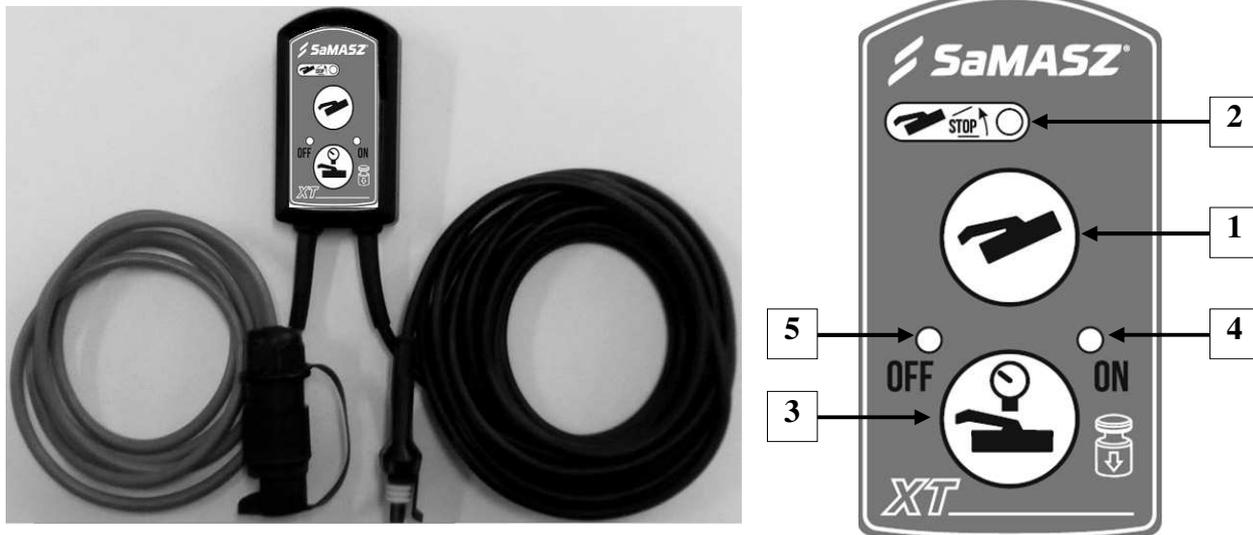

Fig. 16. Control panel – functions
- control panel (**Fig. 16**) using hermetic connector (place the panel in the tractor).
In order to set pressure in working system, first press button (3)  on control panel (Fig. 16), then use lever to control the tractor's external hydraulics (making oil flow from tractor to working system will cause increase of pressure in the system). **Warning! Set the pressure in the working system before starting the mower, as otherwise unloading cylinder may be damaged.**
To set the mower in position for driving on headlands (**Fig. 17**) and transport position (**Fig. 20**) use button (1)  on control panel (**Fig. 16**) and lever to control the tractor's external hydraulics. Activation/deactivation of a given button is indicated by activated/deactivated LED (2) above the button (STOP position).
- push the button (3)  on the control panel (**Fig. 16**) for setting pressure in hydro-pneumatic system,
- turn off the button (3)  on the control panel (**Warning! Otherwise automatic override to working position will follow after 1 minute**),